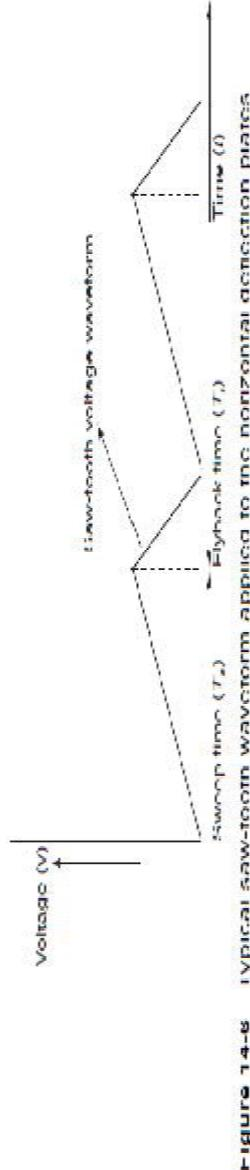

Figure 14-6
- A voltage with such characteristics is called a ramp voltage. If the voltage decreases rapidly to zero—with the waveform repeatedly produced, as shown in Fig. 14-6—we observe a pattern which is generally called a saw-tooth waveform.